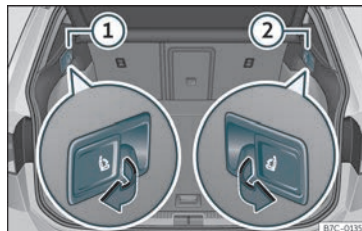

Fig. 108 In the luggage compartment: levers for remote release* of the left part (1) and right part (2) of the rear seat backrest.
- Pull the unlocking lever»» Fig. 108 of the part of the backrest to fold down.